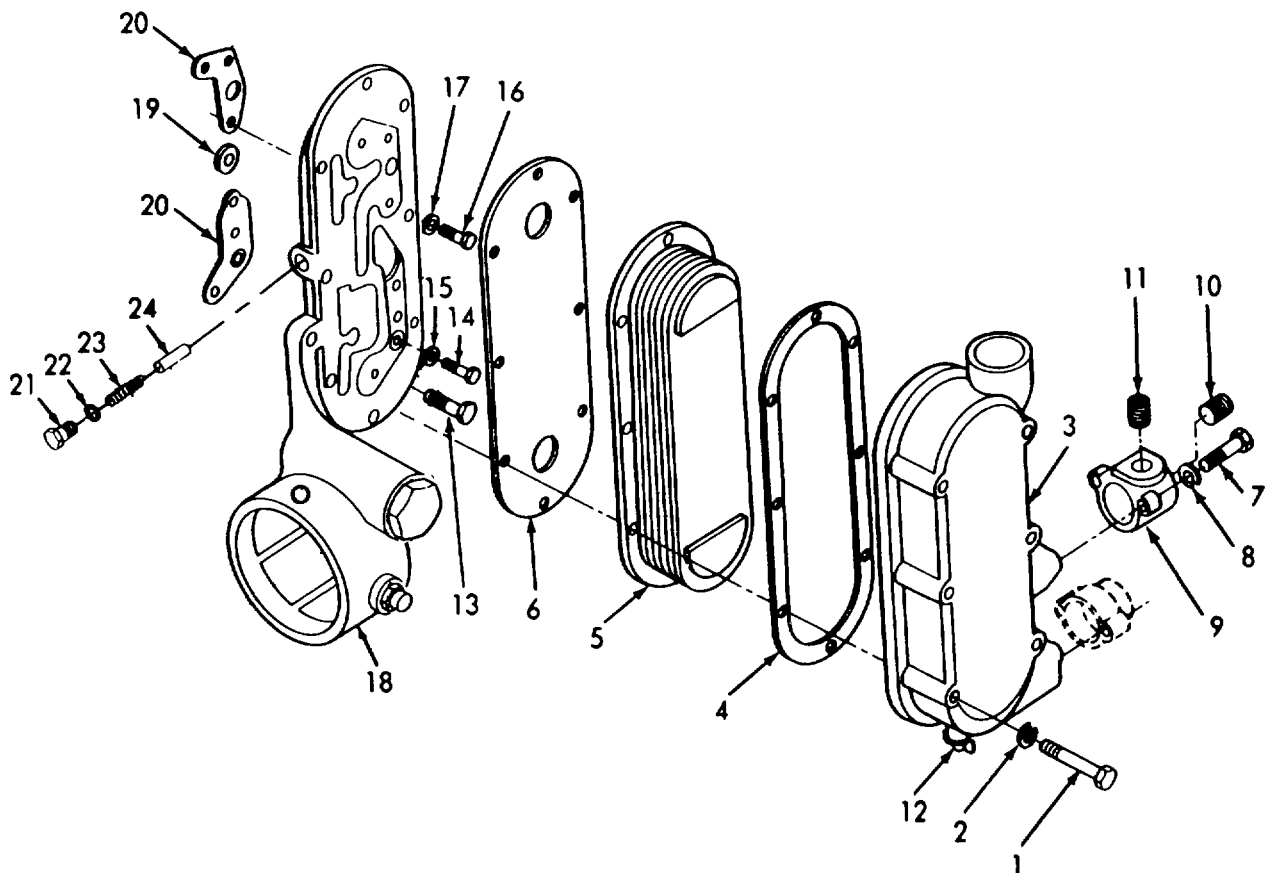

Figure 3-57. Lube Oil Cooler, Removal/Installation.
**3-23. COOLER, LUBRICATION OIL - Continued.**a. Removal. (Refer to figure 3-57).
- (1) Remove upper and lower hoses.
- (2) Remove six bolts (1), six lockwashers (2), and housing (3).
- (3) Remove and discard gasket (4).
- (4) Remove core assembly (5), remove and discard gasket (6).
- (5) Remove two bolts (7), two lockwashers (8), and connector (9). Remove plugs (10 and 11) from connector.
- (6) Remove drain cock (12) from housing (3).
- (7) Remove two screws (13), bolt (14), flat washer (15), three screws (16), three lockwashers (17), and adapter (18).
- (8) Remove and discard gasket (19) and two gaskets (20).
- (9) Remove plug (21), flat washer (22), spring (23), and valve (24) from adapter (18).
- (1) Refer to figure 3-57 and apply a light coat of engine oil (item 8, Appendix C) to valve (24) and install in adapter (18).
- (2) Install spring (23), flat washer (22), and plug (21).
- (3) Install new gaskets (20 and 19) and adapter (18) and secure with three lockwashers (17), three screws (16), three flat washers (15), bolt (14), and two screws (13).
- (4) Install drain cock (12) in adapter (3).
- (5) Install plugs (11 and 10) in connector (9).
- (6) Install connector (9) on adapter (3) and secure with two lockwashers (8) and two screws (7).
- (7) Install gasket (6), core assembly (5), gasket (4), adapter (3), and secure with six lockwashers (2) and six bolts (1).
- (8) Install upper and lower hoses and tighten clamps.